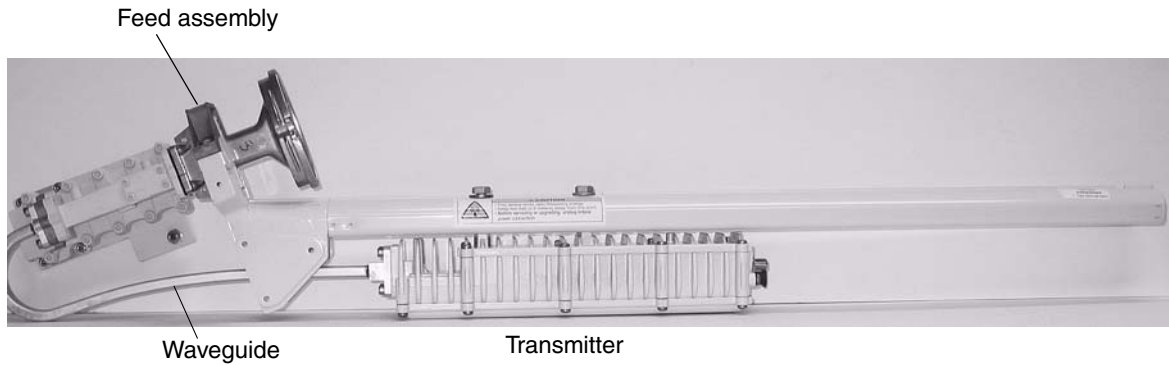

Figure 24: Radio assembly installed on the feed arm
7. Make sure the transmitter and feed arm are oriented correctly, as shown in Figure 24.
When you are done, the assembly looks like Figure 24.
Note: Make sure the feed arm is oriented as shown in Figure 24.